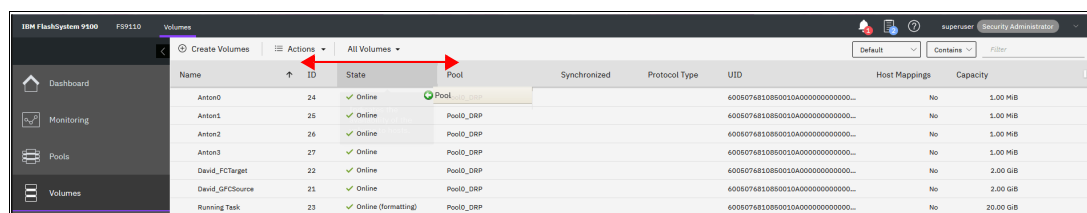

Figure 4-28 Table Restore Default View
4. Return to the default table view by selecting **Restore Default View** (the last entry) in the column selection menu, as shown in Figure 4-28